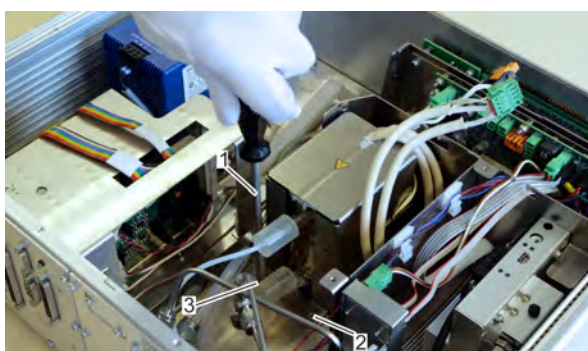

Fig. 81: Unscrewing self-locking nuts
*Do not fully unscrew nuts. Unscrew the nuts at all four corners of the converter cover baseplate (only two are shown in Fig. 81).*